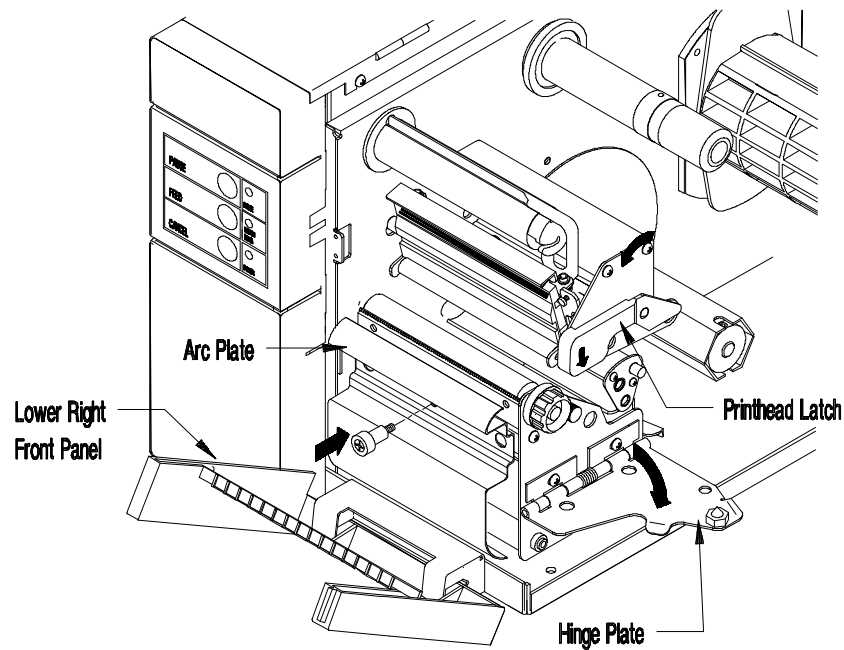

Figure 2-6 Installing the Arc Plate for Internal rewind
4. Remove the Arc Plate from its stored position and install it on the front of the Printer as shown in Figure 2-6.